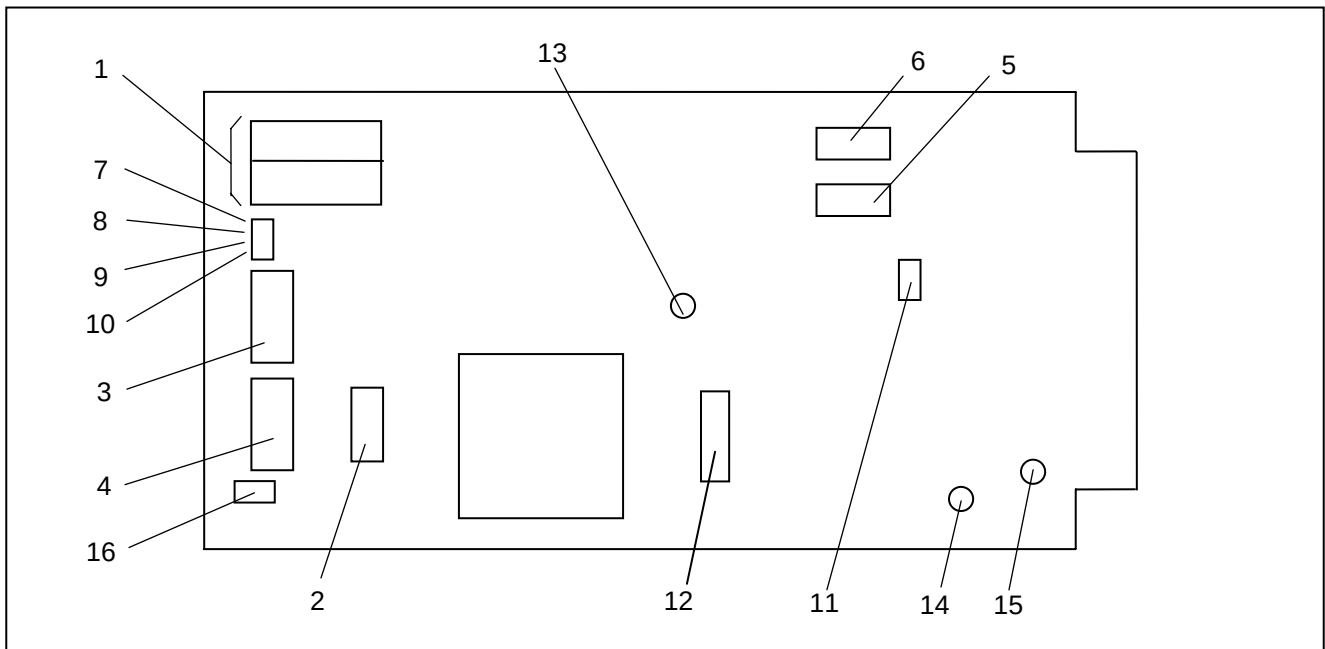

Figure 6. Controls and indicators, RFL VF-6I Four Wire Orderwire Voice Frequency Module
5. Refer to Figure 6 and Table 1 for the location of DIP switches on the VF-6I.